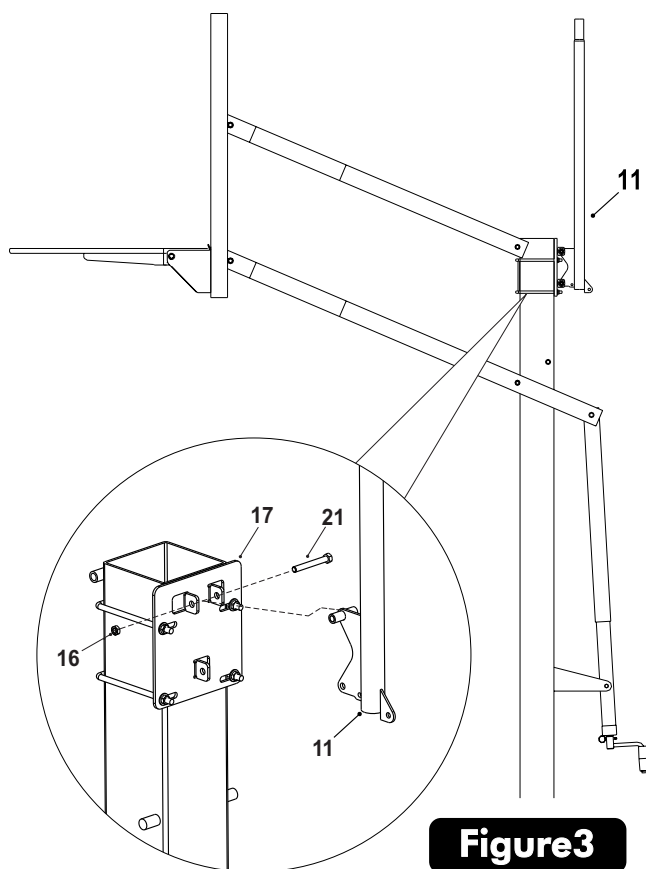

Figure3
5. Attach Pole Section "D" (#11) to Mounting plate (#17) with bolt (#21) and nut (#16) as shown in Figure 3.